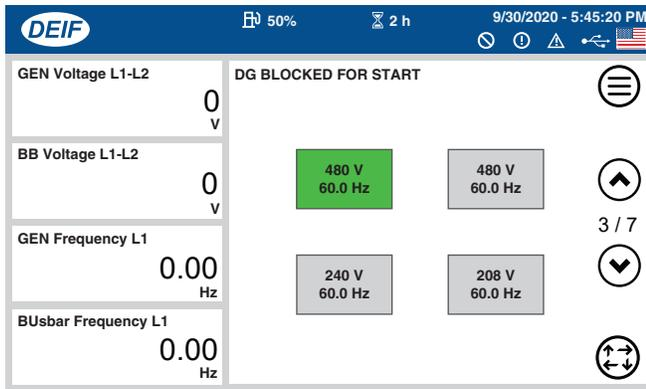

Figure 43. Voltage Selection Screen (3 of 7)
- On the **Voltage Selection screen (3 of 7)**, select the desired voltage output to match the selection made in step 1. See Figure 43.